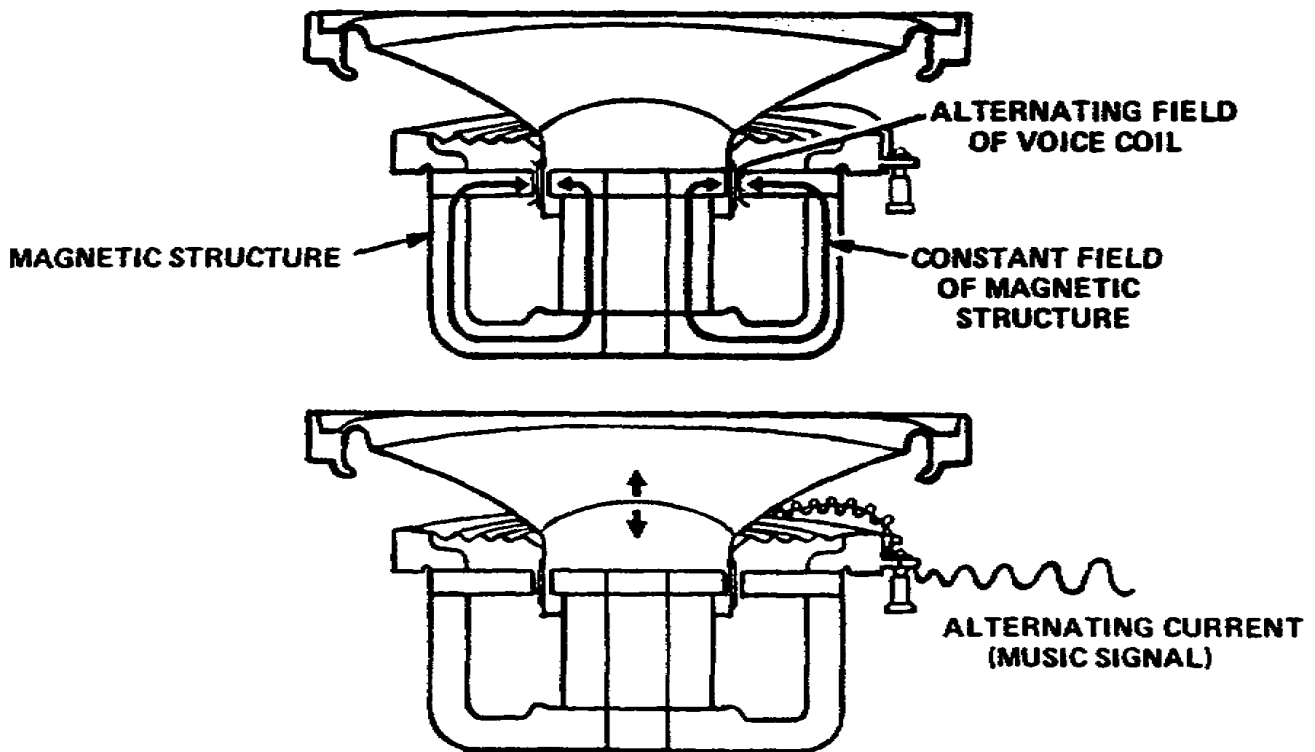

Figure 5-6. Changing field of voice coil causes oscillating movement relative to constant field of magnetic structure creating sound
(1) Electricity flows through the conductor and creates a magnetic field around the conductor with a strength equal to the amount of electricity moving through it.
(2) If the current changes directions, the north-south poles of the magnetic field reverses themselves with each current reversal. A permanent magnet's polarities remain constant.
(3) The law of magnetism states that opposite magnetic polarities attract, and like polarities repel each other. As a result, when alternating current in the form or configuration of an audio signal passes through the coil conductor, it interacts with the lines of force emanating from the permanent magnet. The conductor is alternately attracted and repelled, so forward and backward movement is created in accordance with the audio signal.
b. In most speakers the conductor is a wire coil and is attached to a cone that moves with it, pushing and pulling at the adjacent air surrounding it. Basically, you have just learned the classic operating principle of most speaker designs (fig 5-6).